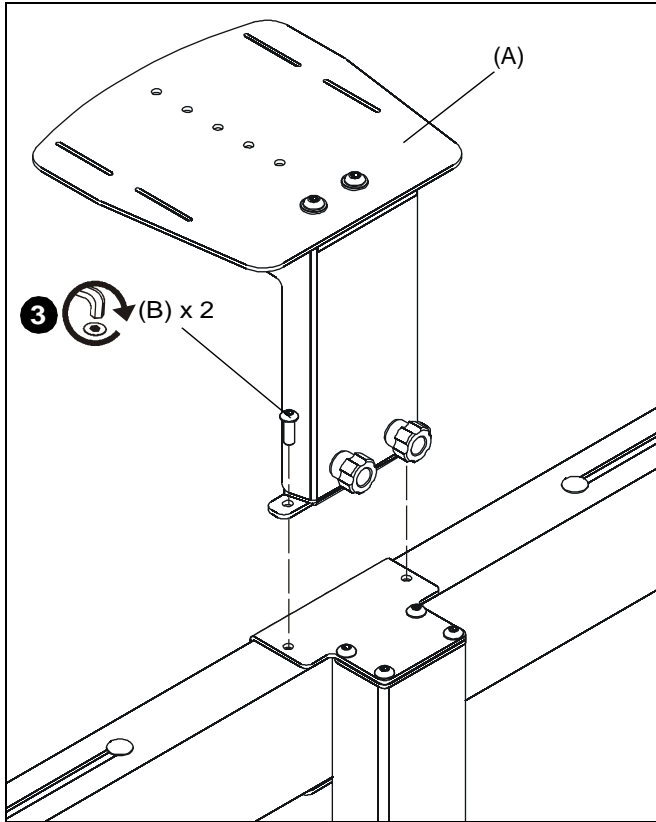

Figure 4
2. Position video conferencing shelf (A) above the center of PAC722 making sure to line up the holes on the shelf with the holes on the PAC722. (See Figure 4)
3. Install two 1/4-20 x 3/4" button head cap screws (B) through holes in shelf and PAC722. (See Figure 4)